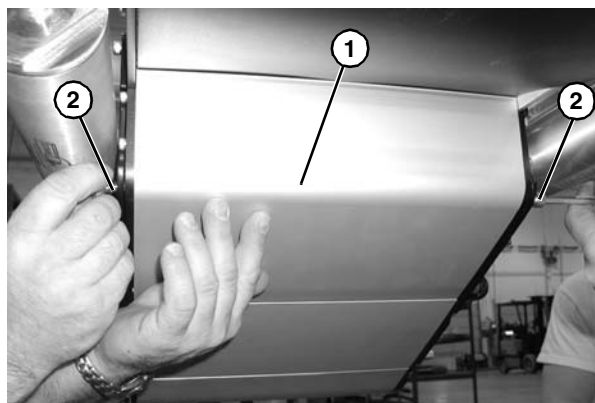

Figure 70
2. Temporarily support idler guard assembly (**Figure 70, item 1**). Remove screws (**Figure 70, item 2**).